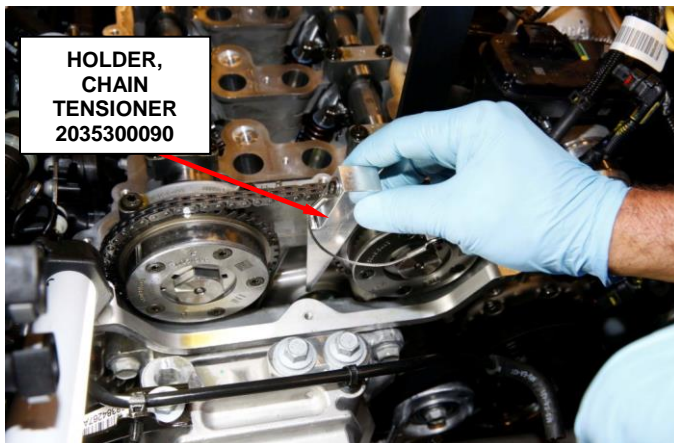

Figure 19 – Chain Tension Holder
- 52. Insert the Holder, Chain Tensioner **2035300090** (Figure 19).